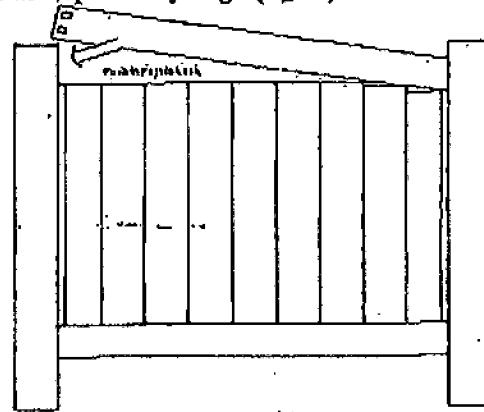

FIG. 11
Step 5. If the rail is going into a post, which will be filled with concrete, seal the ends of the rail with the duct tape to prevent concrete from flowing into it. Place one end of the top rail into the post and work your way down the panel, inserting pickets into the top rail as you go (fig. 11).